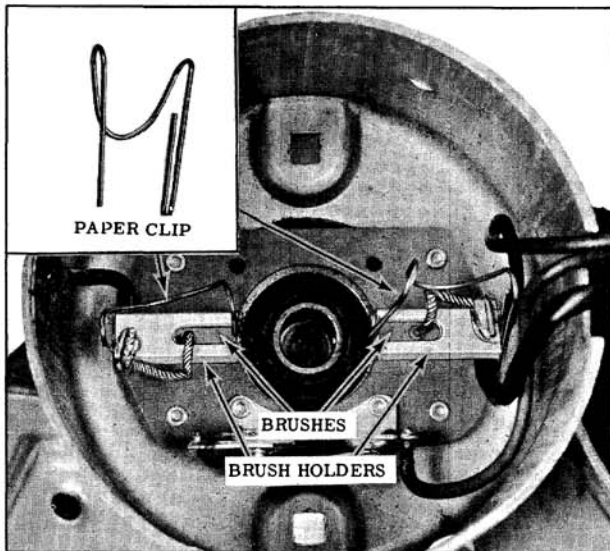

Fig. 13-182 Holding Brushes
4. To separate armature from case while still retaining the brush springs and brushes in place, fashion a spring similar to that shown in Fig. 13-182 and insert behind the brush leads as shown.
5. Pull the armature out of the case and install U-shaped brush retainer spring, Part No. 5096576, as shown in Fig. 13-182. Remove spring installed in Step 4.